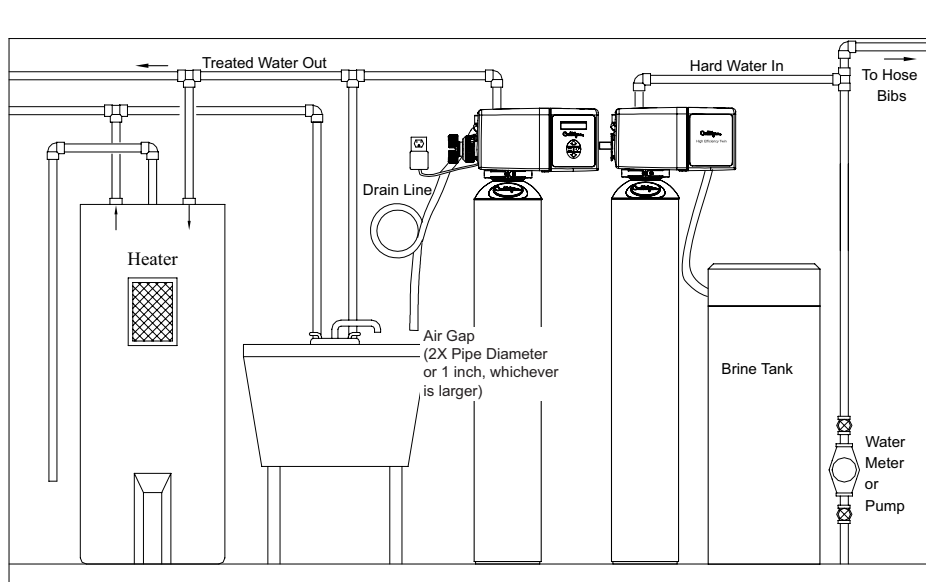

Figure 1. HE Twin system placement.
Refer to Figure 1 for system placement.
- Waste connections or drain outlets shall be designed and constructed to provide for connection to the sanitary waste system through an air gap of two pipe diameters or 1 inch, whichever is larger. See Figure 1.